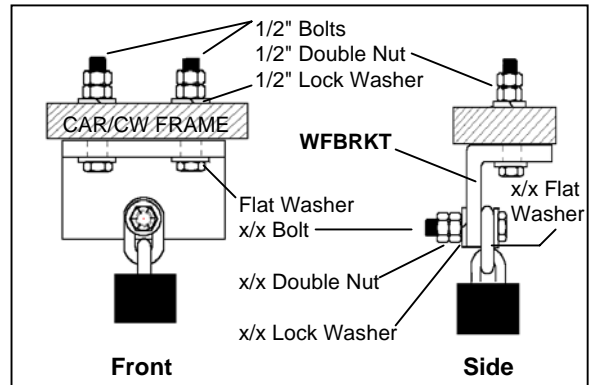

Fig. 3 Securing WFBKRT and Chain (x/x = 3/8" for WF10, x/x = 7/16" for WF15 to WF30, and x/x = 1/2" for WF35 & WF40)
- Attach the WFBKRT to the counterweight frame and terminate the exposed chain link to the WFBKRT (Figure 3).
- Terminate the end link of the chain length underneath the car by attaching the chain to the WFBKRT (Figure 3).